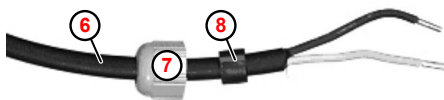

Fig. 10: Transformer cable
4. Feed the transformer cable ( Fig. 10 , ⑥ ) through the threaded cable union ⑦ .
5. Check the seal ⑧ for the correct fit.